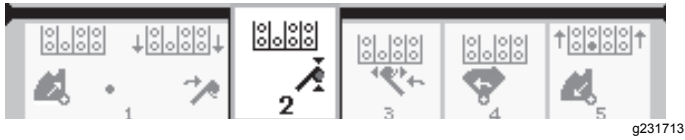

Figure 11
4. Release the rocker switch to proceed to the next step in the sequence (Figure 11).